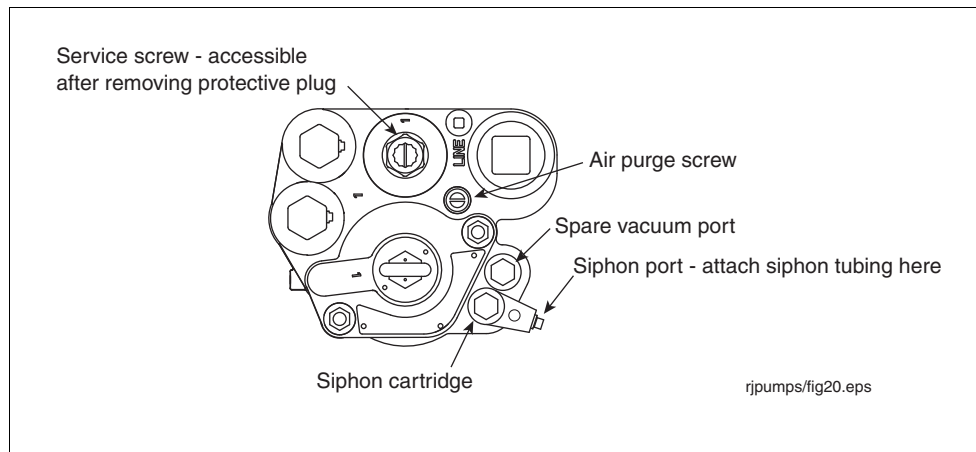

Figure 34. Siphon ports
2. Remove and save the protective plug over the service screw and turn the screw clockwise (see Figure 34). As the screw approaches its bottom position, you will hear the system depressurizing. Continue turning the screw until it can go no further. When the screw is all the way down, backoff the screw 4 turns to lift the check valve and let the fuel drain out of the manifold's hydraulic cavities.
3. Remove one of the two siphon port plugs from the manifold (see Figure 34).
9. Turn the air purge screw 2 - 3 turns counterclockwise (see Figure 34).
2. Remove and save the protective plug over the service screw and turn the screw clockwise (see Figure 34 on page 39). As the screw approaches its bottom position, you will hear the system depressurizing. Continue turning the screw until it can go no further. When the screw is all the way down, backoff the screw 4 turns to lift the check valve and let the fuel drain out of the manifold's hydraulic cavities. Continue to turn the screw counterclockwise until you hear the check valve drop down into position.
8. Open the air purge screw 2 - 3 turns counterclockwise (see Figure 34).